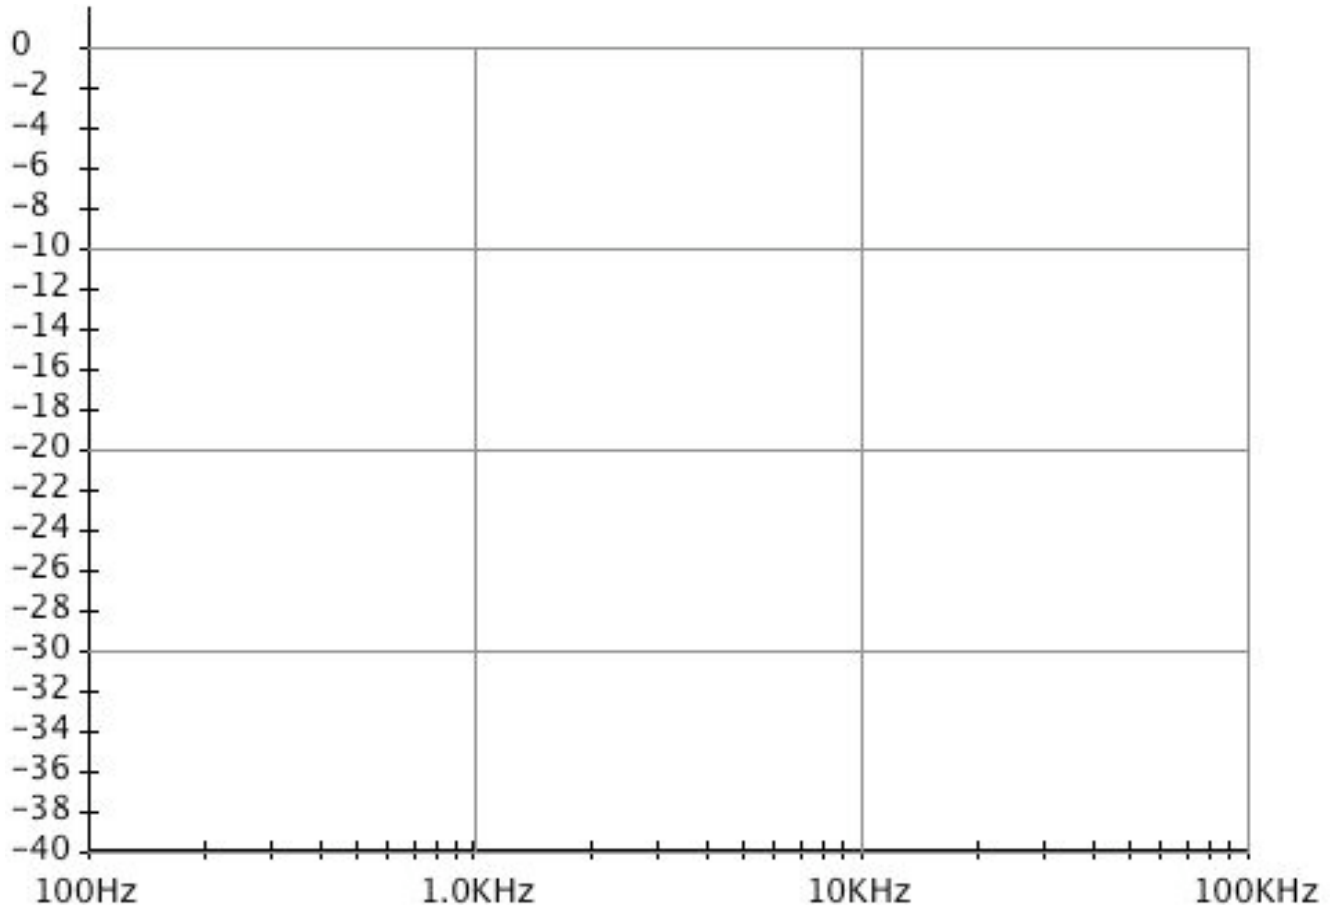

Figure 12 - Graph Template
1. Construct a simple rectangular graph with frequency on the horizontal axis and decibels (db) on the vertical axis. The horizontal axis can be linear or logarithmic, though filter characteristics may look more familiar if logarithmic is used. Extend the horizontal axis, on the right, to at least the PWM repetition frequency and, on the left, down at least to the lower end of your modulation passband. If your lowest frequency is "DC", then extend it down to perhaps 10Hz or 100Hz. On the vertical axis, choose some arbitrary point near the top of the axis as "0db". The vertical axis should span at least 40db. A sample graph to accommodate up to 64KHz PWM frequency is shown in Figure 12; you are welcome to use it.